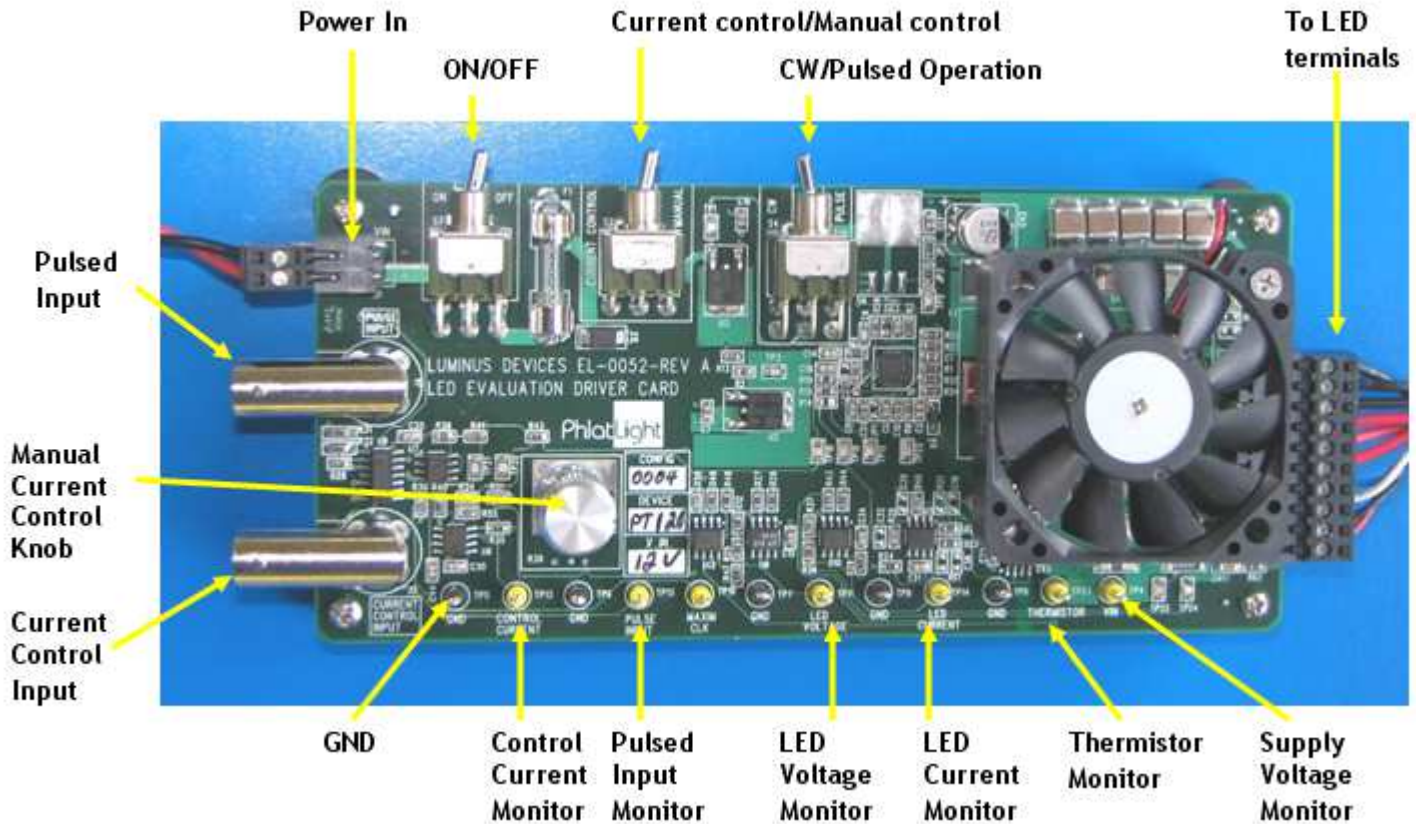

Figure 8: Driver card pin layout (example of PT120/CBT120 driver card)
Figure 8 shows the top view of a PT120/CBT120 driver card. The pins, switches and readouts that are commonly expected to be used are shown. The overall layout of driver card for PT85 is similar to the PT120/CBT120 driver card layout. However, component values are changed to match desired operation range.
1. Make sure power supply is OFF and the power switch (ON/OFF switch in Figure 8) on the driver card is OFF.
5. Set middle switch (Current Control/Manual Control switch in Figure 8) to "Manual".
6. Set right switch (CW/Pulsed switch in Figure 8) to "CW" for continuous operation.